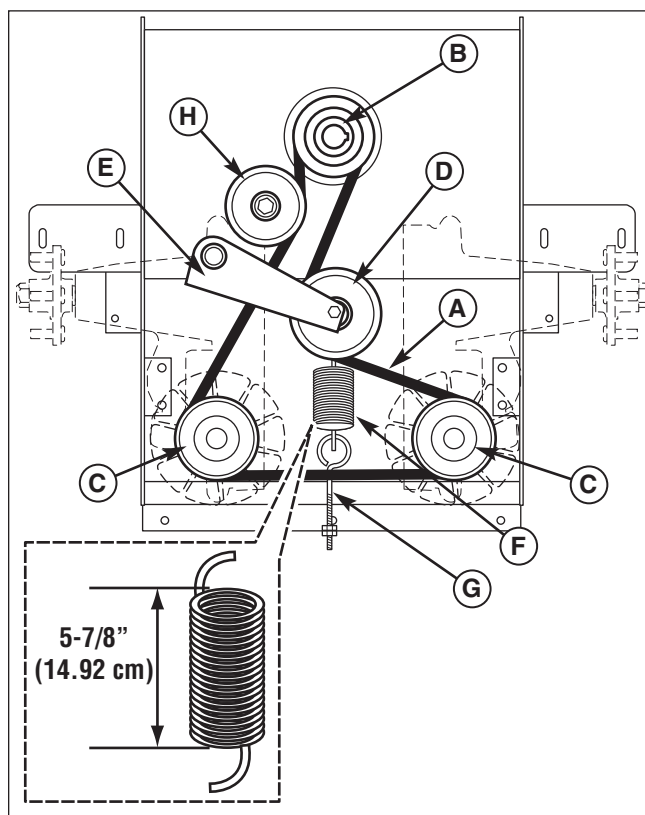

Figure 43. Hydraulic Pump Drive Belt Replacement
4. Loosen the nut on the spring anchor eyebolt (G, Figure 43) to release the majority of the belt tension. Use caution and remove the nut to completely release the tension.